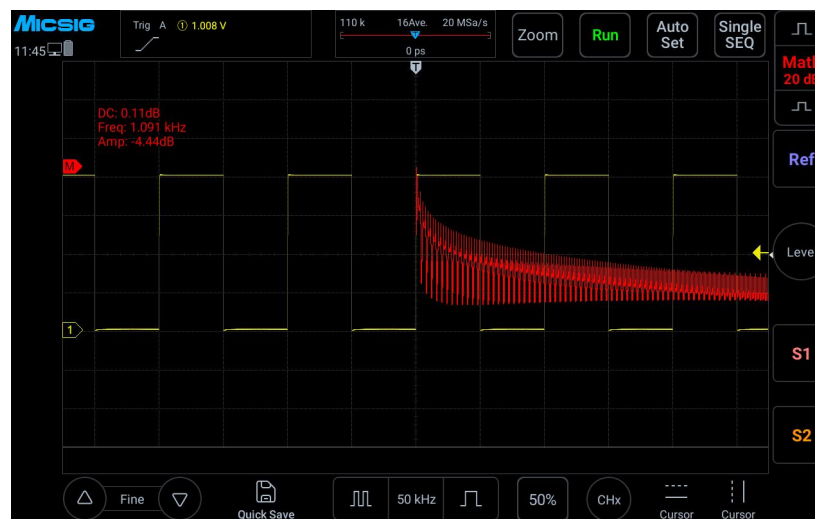

Figure 9-3 FFT Window
- 2) Tap **FFT** spectrum type “Line/Decibel” to open the FFT window (see Figure 9-3 FFT Window).